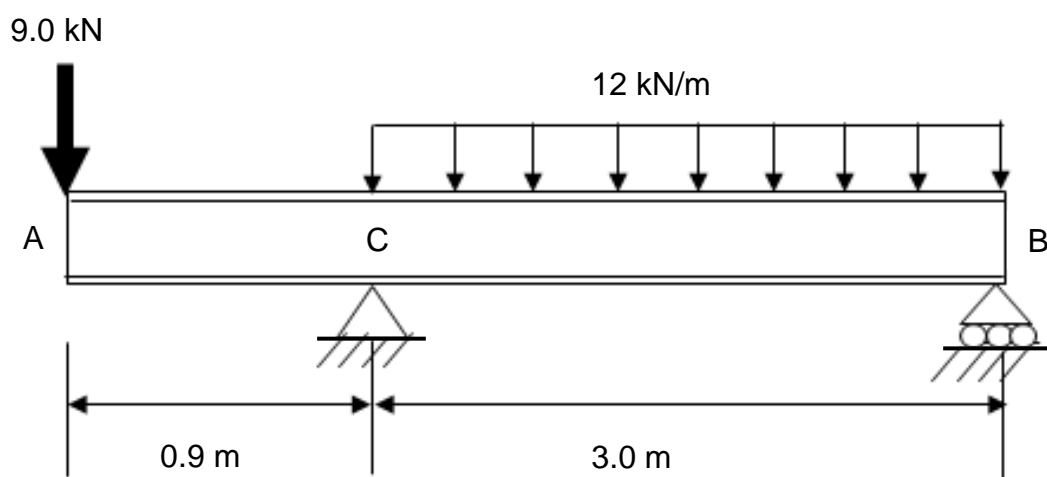

Figure 5 / Rajah 5
3. A 3.9 m long, simply supported steel beam ACB with overhang AC is to carry the distributed and concentrated loads as shown in **Figure 5**.